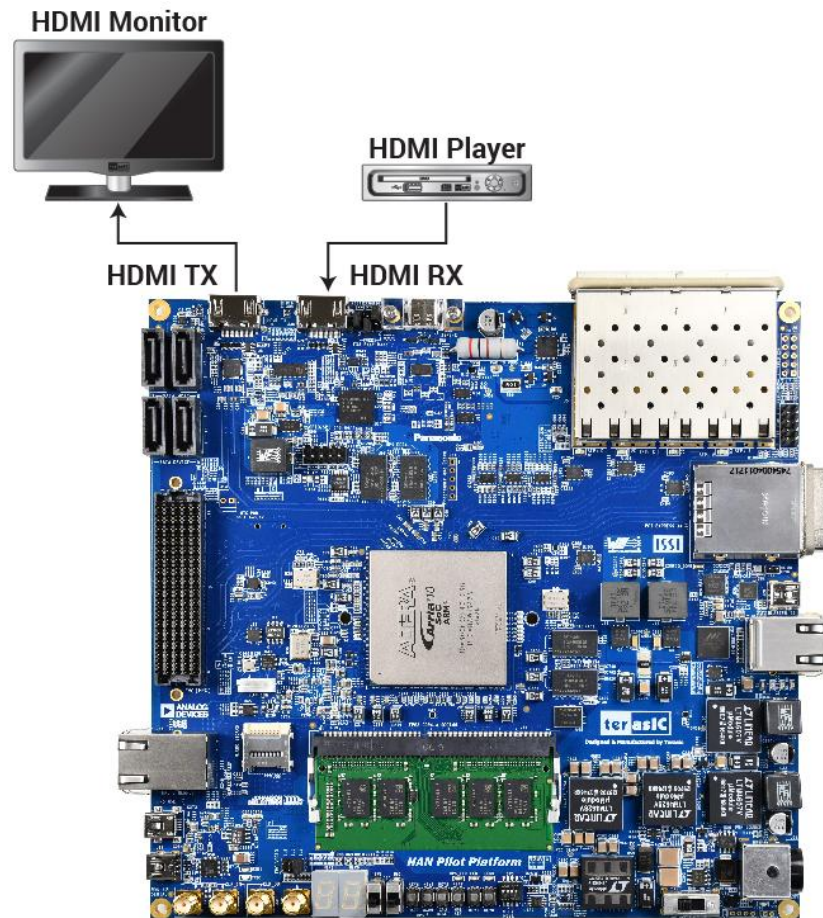

Figure 2-20 The Architecture of the demonstration
This demonstration uses the Intel® FPGA HDMI IP core to implement the HDMI Retransmit function in the FPGA of the HAN Pilot Platform. As shown in **Figure 2-20**, user can connect an HDMI video player to the input video and audio data to HDMI RX port of the HAN Pilot Platform. After the HDMI video data is received in the FPGA, it will be instantly transferred to the HDMI TX port. The user only needs to connect an HDMI screen to the HAN Pilot Platform. User only needs to connect an HDMI screen to the HAN Pilot Platform, then you can watch the images output by the HDMI Player. This demonstration supports image resolution up to 4K60P. If you want to learn HDMI high-performance related image processing, this demo can help you learn quickly.
7. First set the output resolution of the HDMI video player to 4K@60Hz and connect to the HDMI RX port of HAN Pilot Platform as shown in **Figure 2-20**.